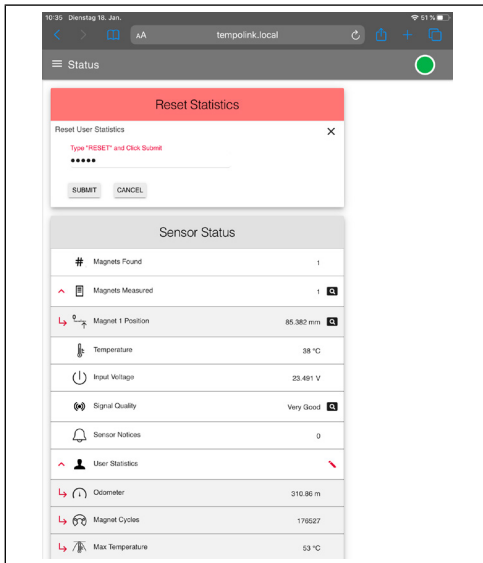

Fig. 27: Resetting the values under “User Statistics”
- **Min Temperature:** Minimum temperature inside the sensor electronics housing reached so far since last reset. To reset these values, click on the black pencil in the line „User Statistics“. The „Reset Statistics“ window opens. Enter the word RESET and confirm by clicking SUBMIT. The values displayed under „User Statistics“ are reset. If you click CANCEL, the reset will be canceled (Fig. 27).